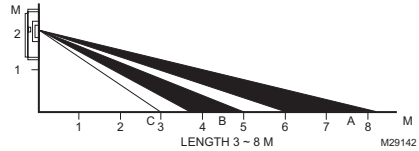

Fig. 1. Side view of PIR detection pattern.
**Length:** 3 to 8 meters when mounted 2 meters above the floor (see Fig. 1)